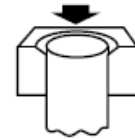

Fig. 2
5. THESE TOOLS ARE SELF-GAUGING. The proper size flare is produced when tubing is clamped flush with the top of the die block. (See Fig. 2.) Insert tubing between the segments of the die block that correspond to the size of the tubing to be flared.